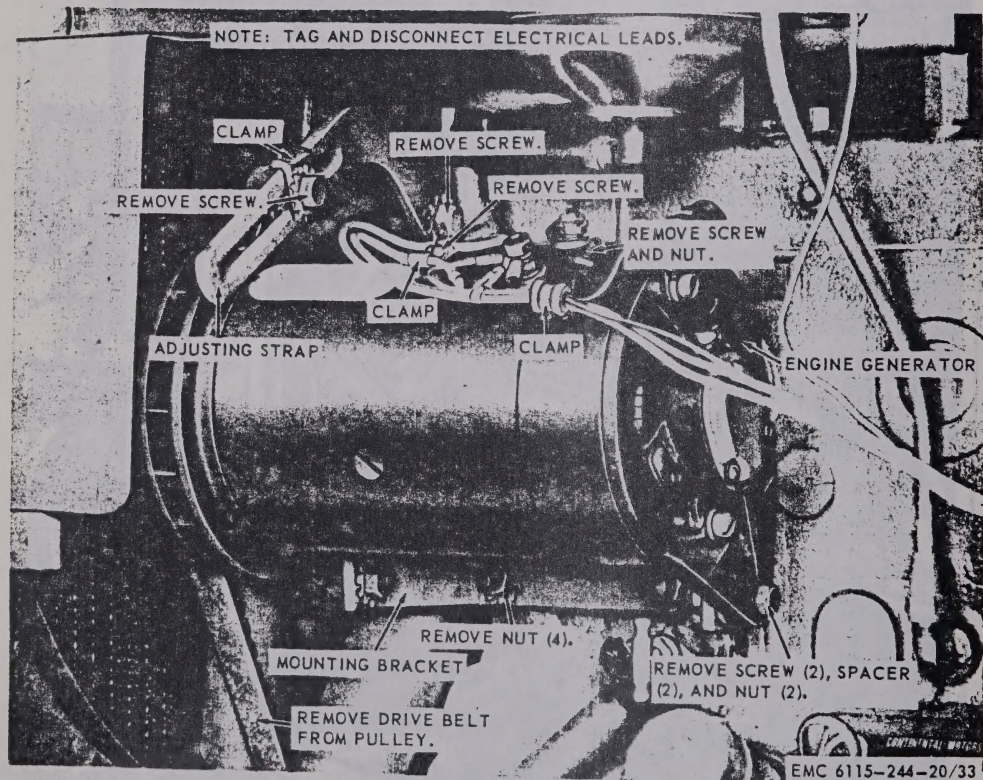

Figure 33. Engine generator, mounting bracket, and adjusting strap, removal and installation.
b. *Removal.* Refer to figure 33 and remove the engine generator, mounting bracket, and adjusting strap from the engine.
- (1) Clean the engine generator with a cloth dampened with an approved cleaning solvent and dry thoroughly. Clean the mounting bracket, adjusting strap, and mounting hardware with an approved cleaning solvent and dry thoroughly.
- (2) Inspect the engine generator for dents, cracks, loose terminals, and other damage. Inspect the mounting bracket, adjusting strap, and mounting hardware for damage.
- (3) Replace all parts that are excessively damaged, worn, or defective.
d. *Installation.* Refer to figure 33 and install the engine generator, mounting bracket, and adjusting strap on the engine.